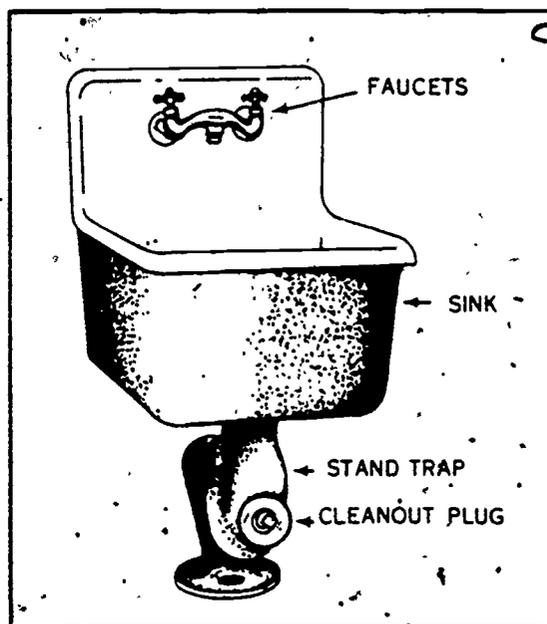
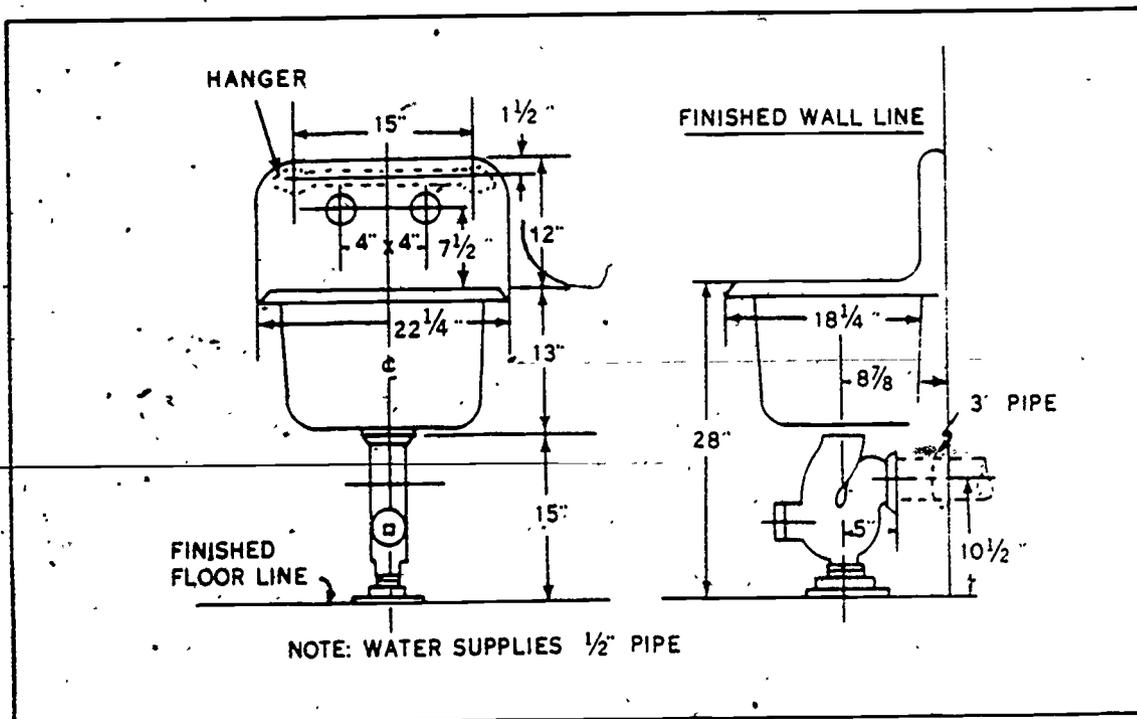

Figure 5-20. Utility sink.
Figure 5-21. Rough-in specifications for a utility sink.
*Installation of utility sinks.* The utility sink installation is similar to the kitchen sink installation. The utility sink is also mounted on a bracket and mounting board. In addition to the hanger, the utility sink also has a built-in adjustable stand trap which bolts to the floor and provides a pedestal support. The stand trap should be adjusted to take most of the weight off the hanger and prevent the unit from sagging. After the fixture has been set in place, the waste line is connected to the water supply. Then, the unit is ready for use. Typical rough-in specifications that will aid the plumber when installing a utility sink are shown in figure 5-21.
**Exercises (450):**
**Utility Sinks.** The utility sink, shown in figure 5-20